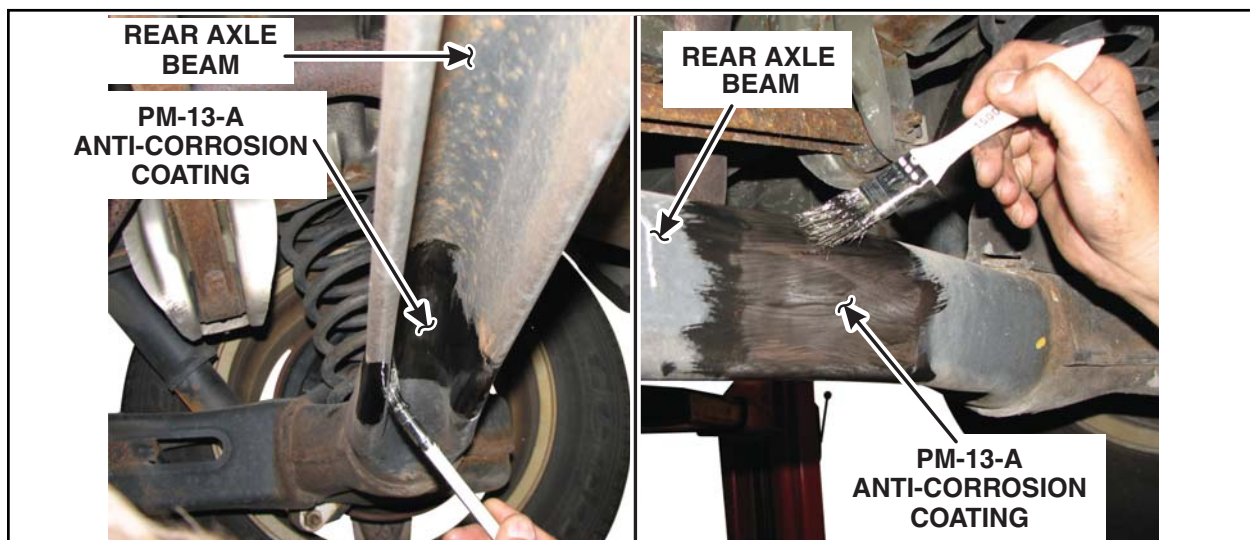

FIGURE 5
- a. If no cracks or perforations (holes) are found and axle reinforcement parts are not available, apply Motorcraft® PM-13-A Anti-Corrosion Coating to the cleaned areas and return the vehicle to the owner. See Figure 5.